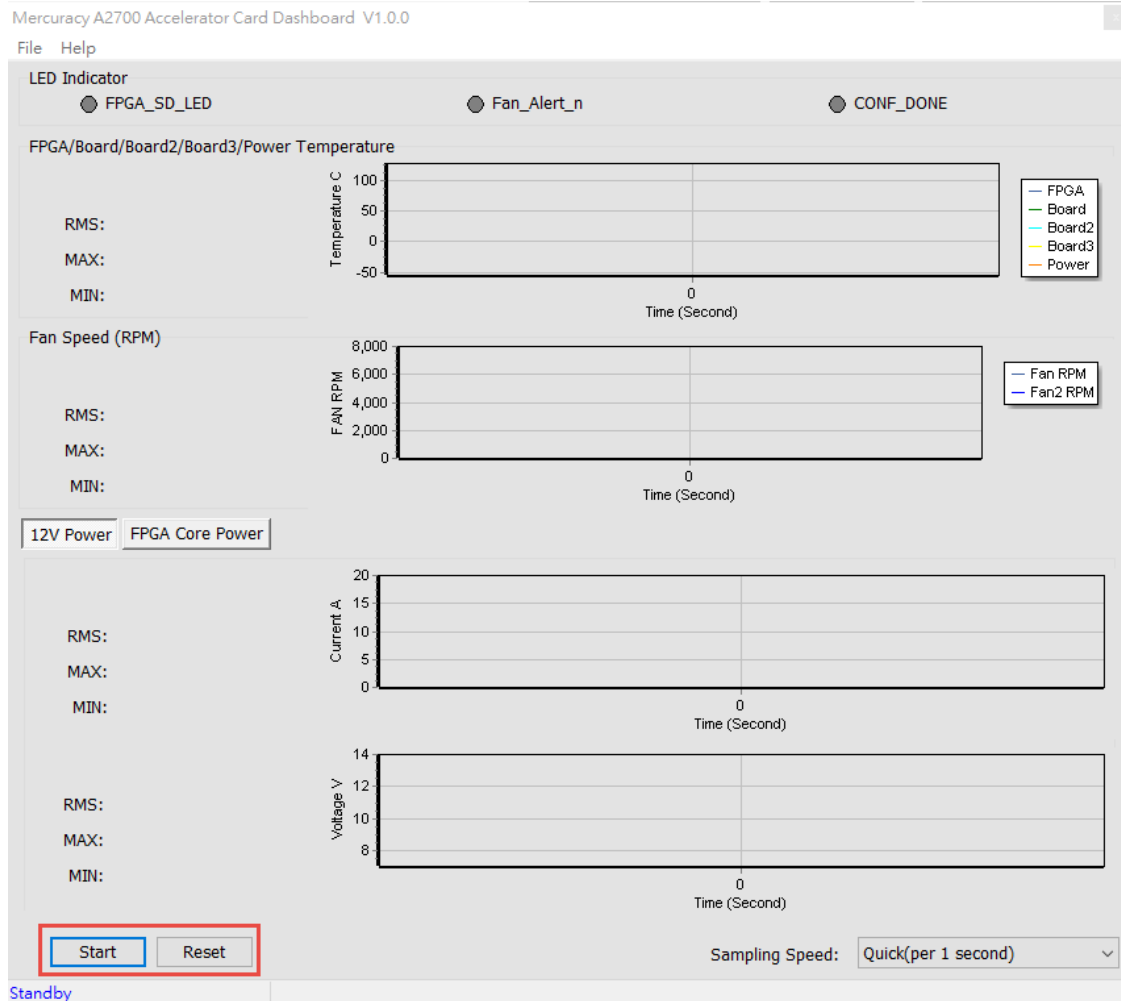

Figure 4-7 Start and Reset button
- **Start/Stop:** As shown in Figure 4-7, there is a Start button at the bottom-left of the GUI window. Click it to run the program (Start will change to Stop), it will show the Mercury A2700 Accelerator Card status. Users can press Stop button to stop the status data transmission and display.